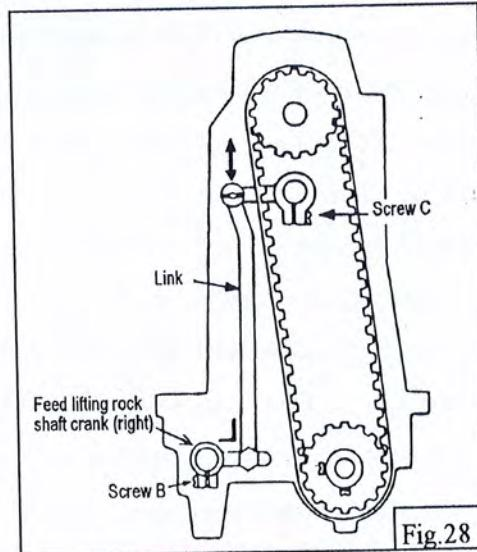

Fig.28
- F If the connection is not at right angle, remove the back cover, loosen screw C and move the right link to connect the right feed lifting rock shaft with the link at right angle.(Fig.28)